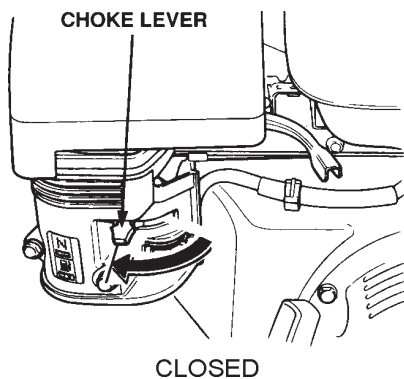

Figure 17. Engine Choke Lever (Closed)
- Place the **choke lever** (Figure 17) in the "**CLOSED**" position if starting a **warm engine** or the **temperature is warm**.
- If the engine has started, slowly return the choke lever (Figure 17) to the **CLOSED** position. If the engine has not started repeat steps 1 through 6.